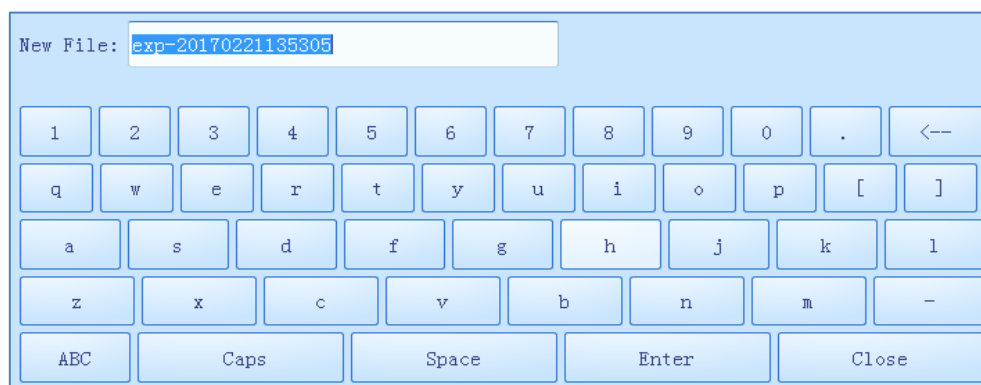

Figure E-2.4. Experiment File Tab - Keyboard
- ❗ **Reminding:** the system will pop up a keyboard for user to name the new experiment file or file folder, as shown in figure E-2.4. User can press < **Close** > to exit the keyboard.